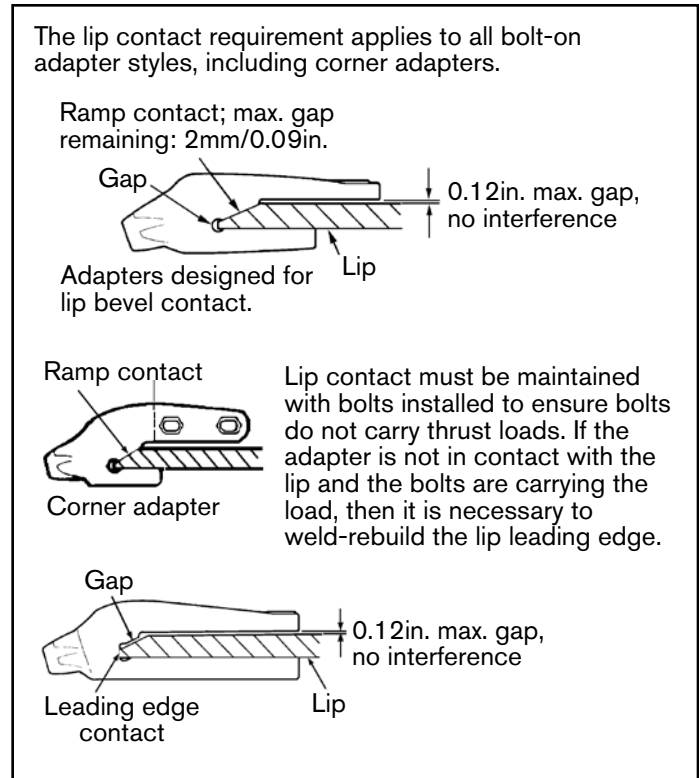

Figure 1
- When in position on the lip and with bolts installed, adapters must contact the lip leading edge (lip blunt) or the lip bevel, depending on the adapter style, see Figure 1.